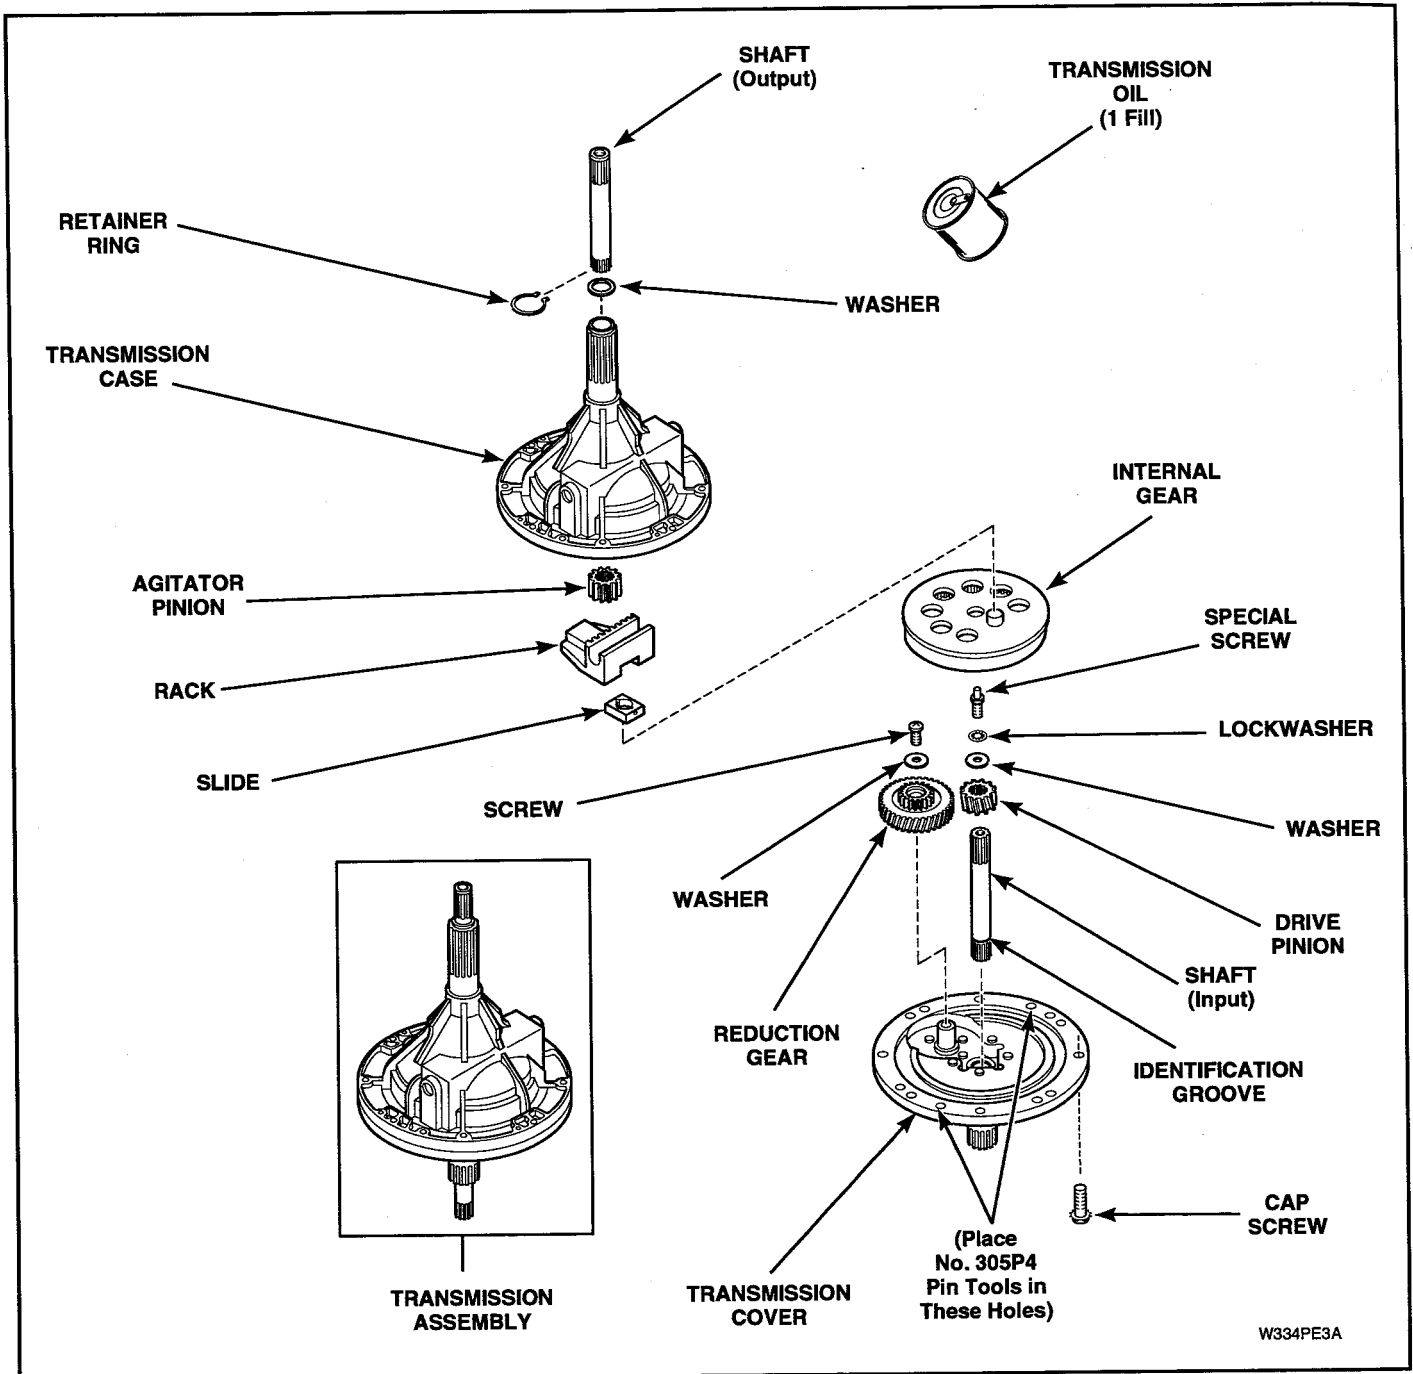

Figure 5-38
**ASSEMBLY (Refer to Figure 5-38 for assembly sequence)**
**IMPORTANT:** End of shaft with identification groove must be facing outward. See Figure 5-38. This is the end that will mate with the helix.
**NOTE:** A transmission pin tool, Part No. 305P4, must be used to align the cover and case when reassembling the transmission after repair. The transmission pin tool must be used in sets of two and placed in the same holes shown in Figure 5-38. Both transmission pin tools must be left in place until all eight screws and nuts have been installed and tightened firmly, then remove the two pins.